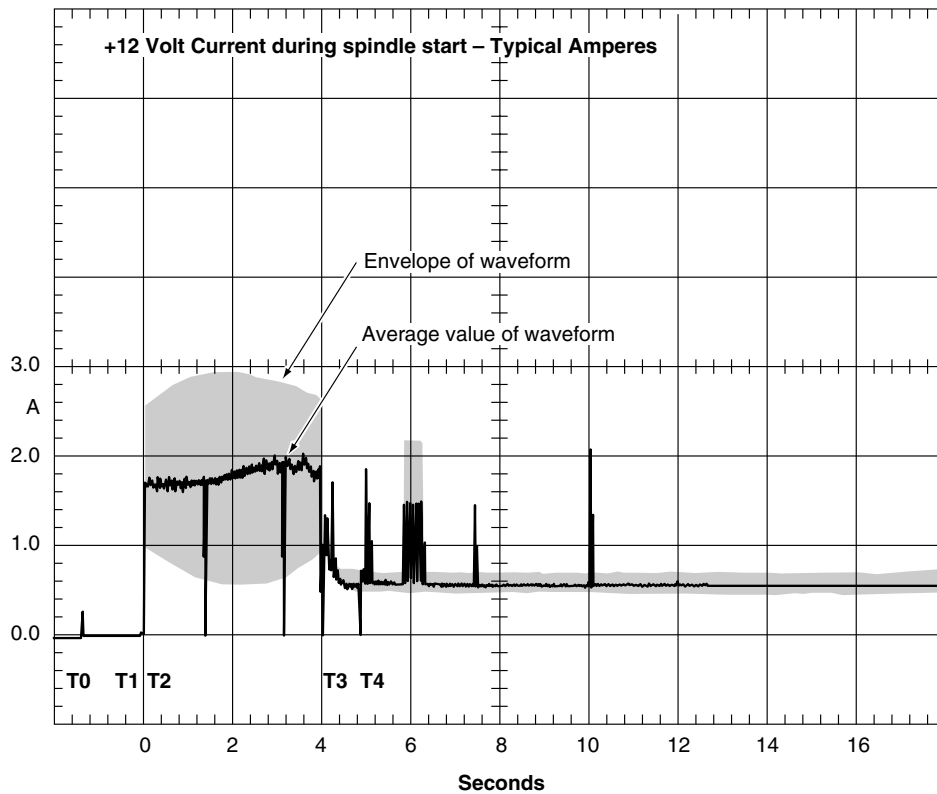

Figure 3. Typical ST373405FC drive +12V current profile
- [3] See +12V current profile in Figure 3.
Figure 3 identifies the drive +12V current profile. The current during the various times is as shown: